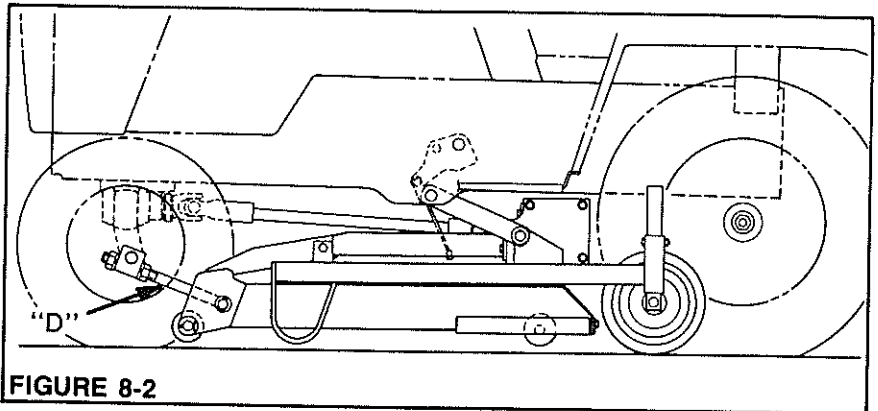

FIGURE 8-2
4. Check front to rear leveling by measuring the distance from the bottom of the mower deck - to the working surface. This distance should be the same in the front and rear. If not, adjust rod length of front links (D) Figure 8-2.
5. Remove output shaft (A), Figure 8-2, as follows:
- a. Remove drive sheave (B) and woodruff key.
- b. Remove plug (C) and outside snap ring (D).
- c. Slide shaft (A), gear and bearing out of gear case.
6. Remove input shaft (E) by removing oil seal (F) and snap ring (G). Pull shaft out.